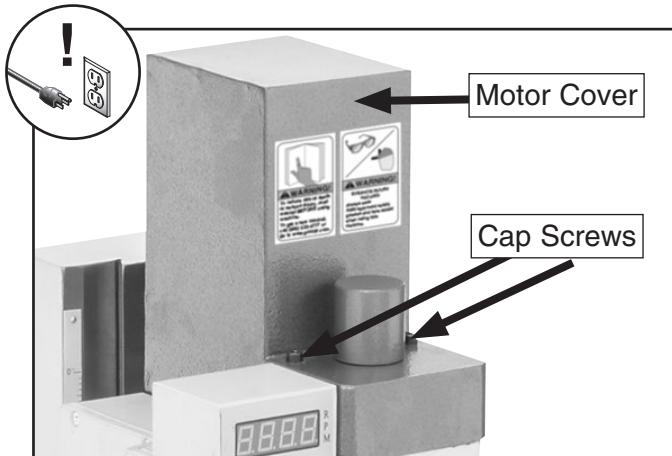

Figure 42. Location of motor cover cap screws.
2. Remove motor cover by removing two cap screws (see **Figure 42**).